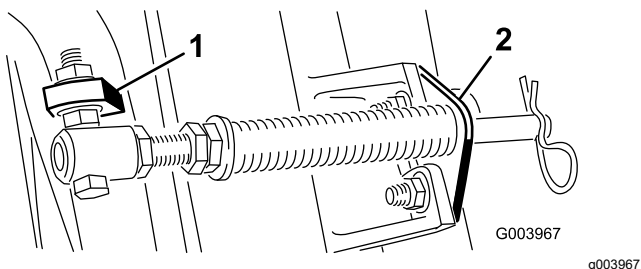
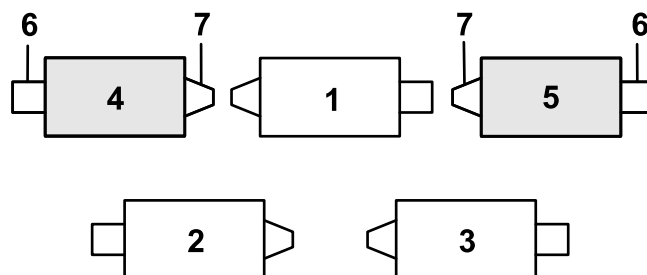
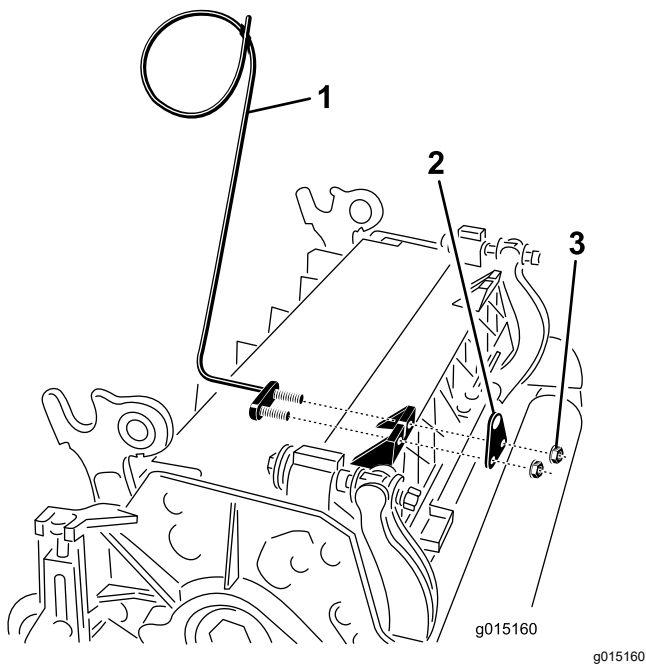
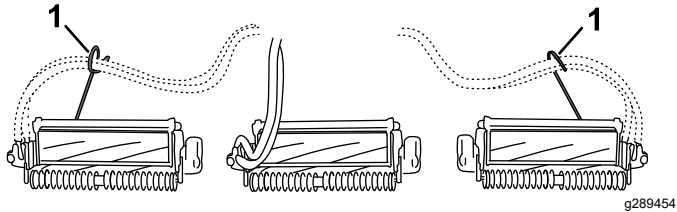

Figure 6
Figure 8
Figure 9
Figure 10
Note: Position the bolt head to the outer side of the tab as shown in Figure 6.
4. Mount the rod bracket to the cutting unit tabs with the carriage bolts and nuts (Figure 6). On the cutting unit, mount the left hose guide to the front of the cutting unit tabs when installing the rod bracket (Figure 9).
On Cutting Unit 4 (left front) and Cutting Unit 5 (right front), use the rod-bracket mounting nuts to install the hose guides to the front of the cutting-unit tabs. The hose guides should lean toward the center cutting unit (Figure 8, Figure 9, and Figure 10).